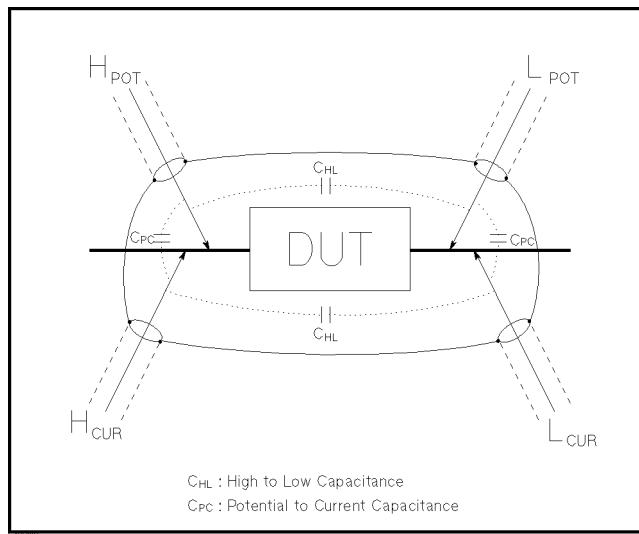

Figure 7-12. Stray Capacitance Causing Contact Check Error
- Minimize C_{HL} and C_{PC} by arranging your test leads as shown in Figure 7-12.